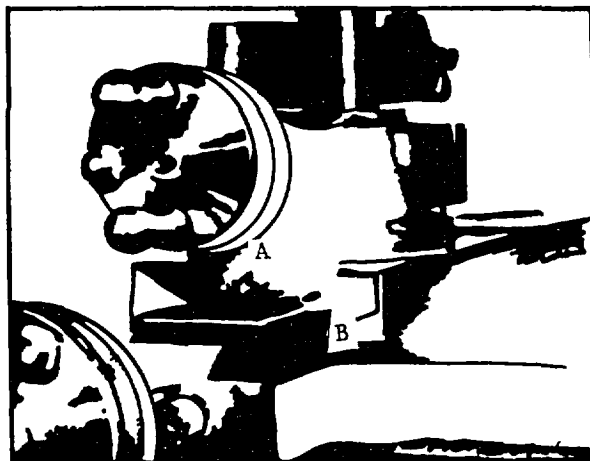

Fig. 24.
1. A gib is provided to take up all play between the mating dove tailed ways of the compound slide and swivel base. Should the compound slide move too freely or bind, it is necessary to readjust the gib (A) Fig. 24.
1. Follow the same procedure for adjusting the cross slide gib (B) Fig. 24, as for gib adjustment for the compound slide.